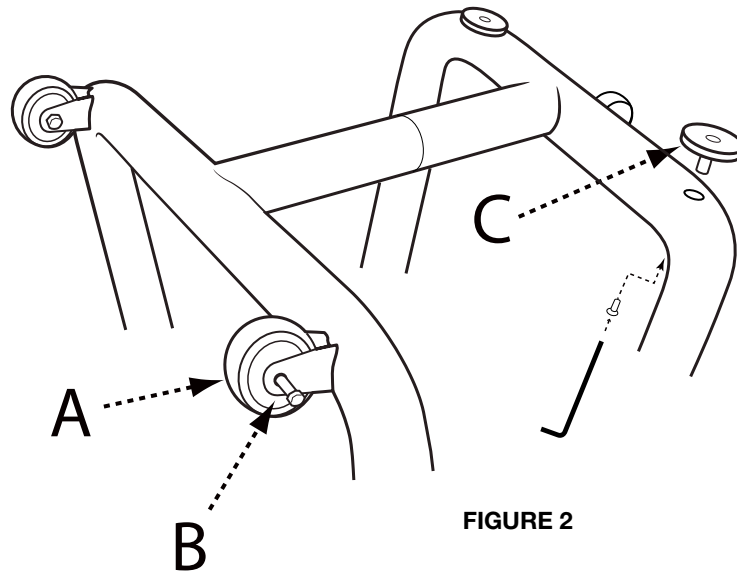
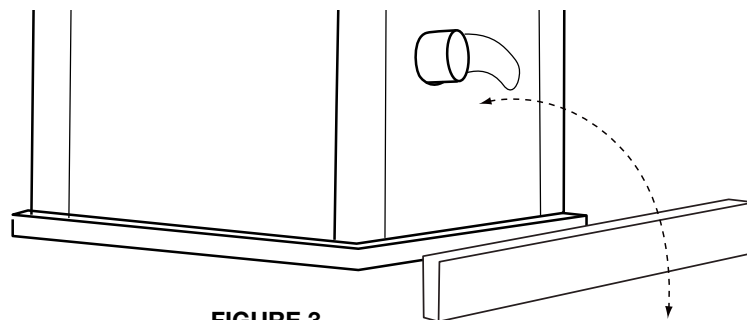

FIGURE 2
FIGURE 3
1. Attach the two fixed wheels (A) to the two left leg, opposite the pivot caster, using the M8 X 53 mm axle pin as in Figure 2.
2. Screw the adjustable feet (C) into the threaded inserts in the right leg, next to the pivot caster.
3. Lay a scrap piece of 2x4 in back of the saw, as shown in Figure 3, to prevent damage to the dust chute when righting the saw.
5. The two adjustable feet (C) can be raised and lowered by rotating them. The feet may be adjusted to level the saw and locked in place with the locking set screws already assembled in the frame, using a 6mm allen hex wrench. See Figure 2.